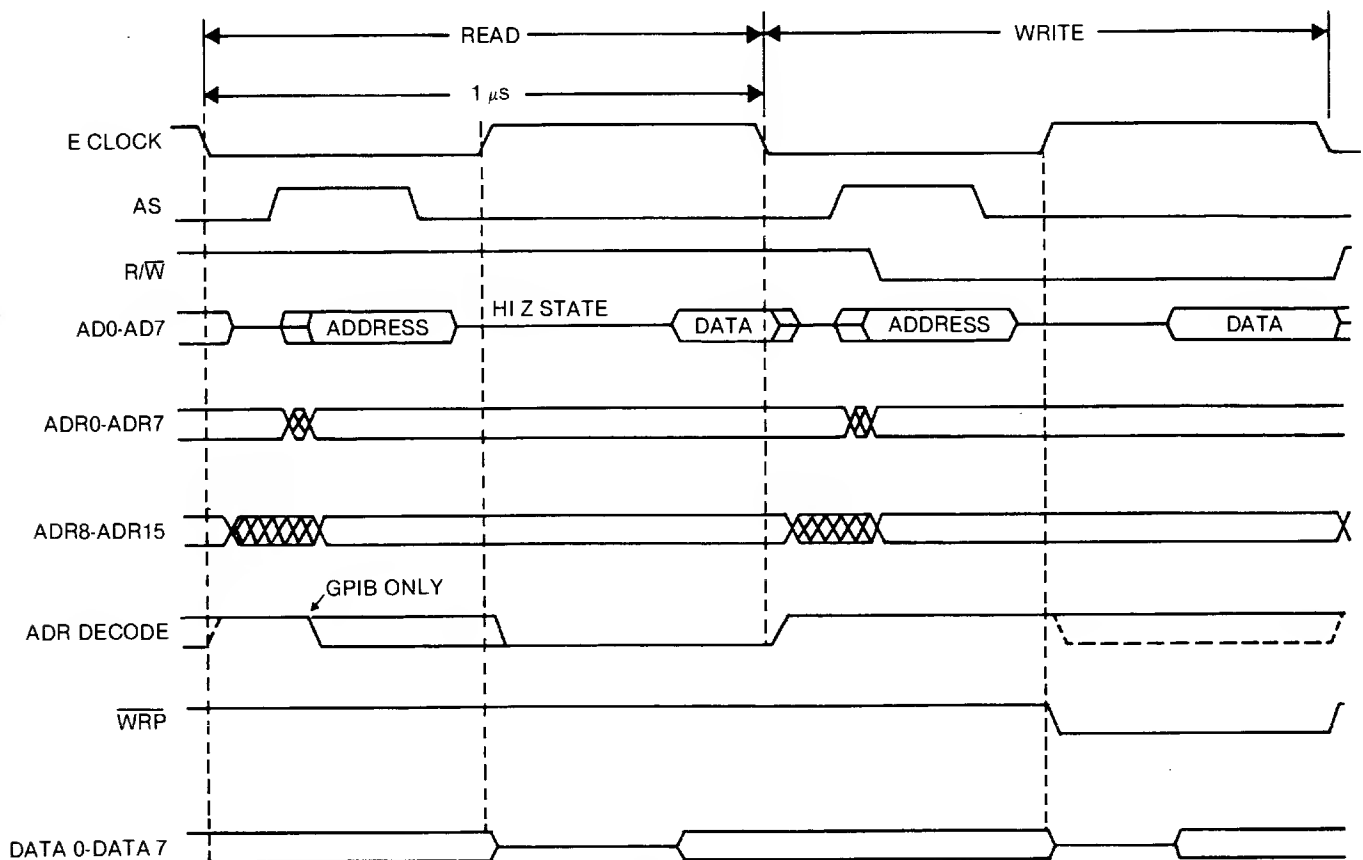

Figure 4-4. Microprocessor Timing Diagram
A clock-generating circuit within the microprocessor uses an external 4 MHz crystal, Y1, between the XTAL1 and XTAL2 pins to develop its internal phase clocks and the 1 MHz system enable clock (E). Figure 4-4 shows the approximate timing for major signals and busses in the microprocessor/memory system. Actual system timing varies somewhat from instrument to instrument, so signal spacing may be different within the 1 μ s period of the system clock.
An octal latch, U4, demultiplexes the address/data bus from the microprocessor to hold the low-order addresses (ADR0-ADR7) during the part of the E clock cycle that data occurs on the multiplexed bus. Latching occurs on the negative transition of the AS signal (U3, Pin 39). See timing diagram, figure 4-4.